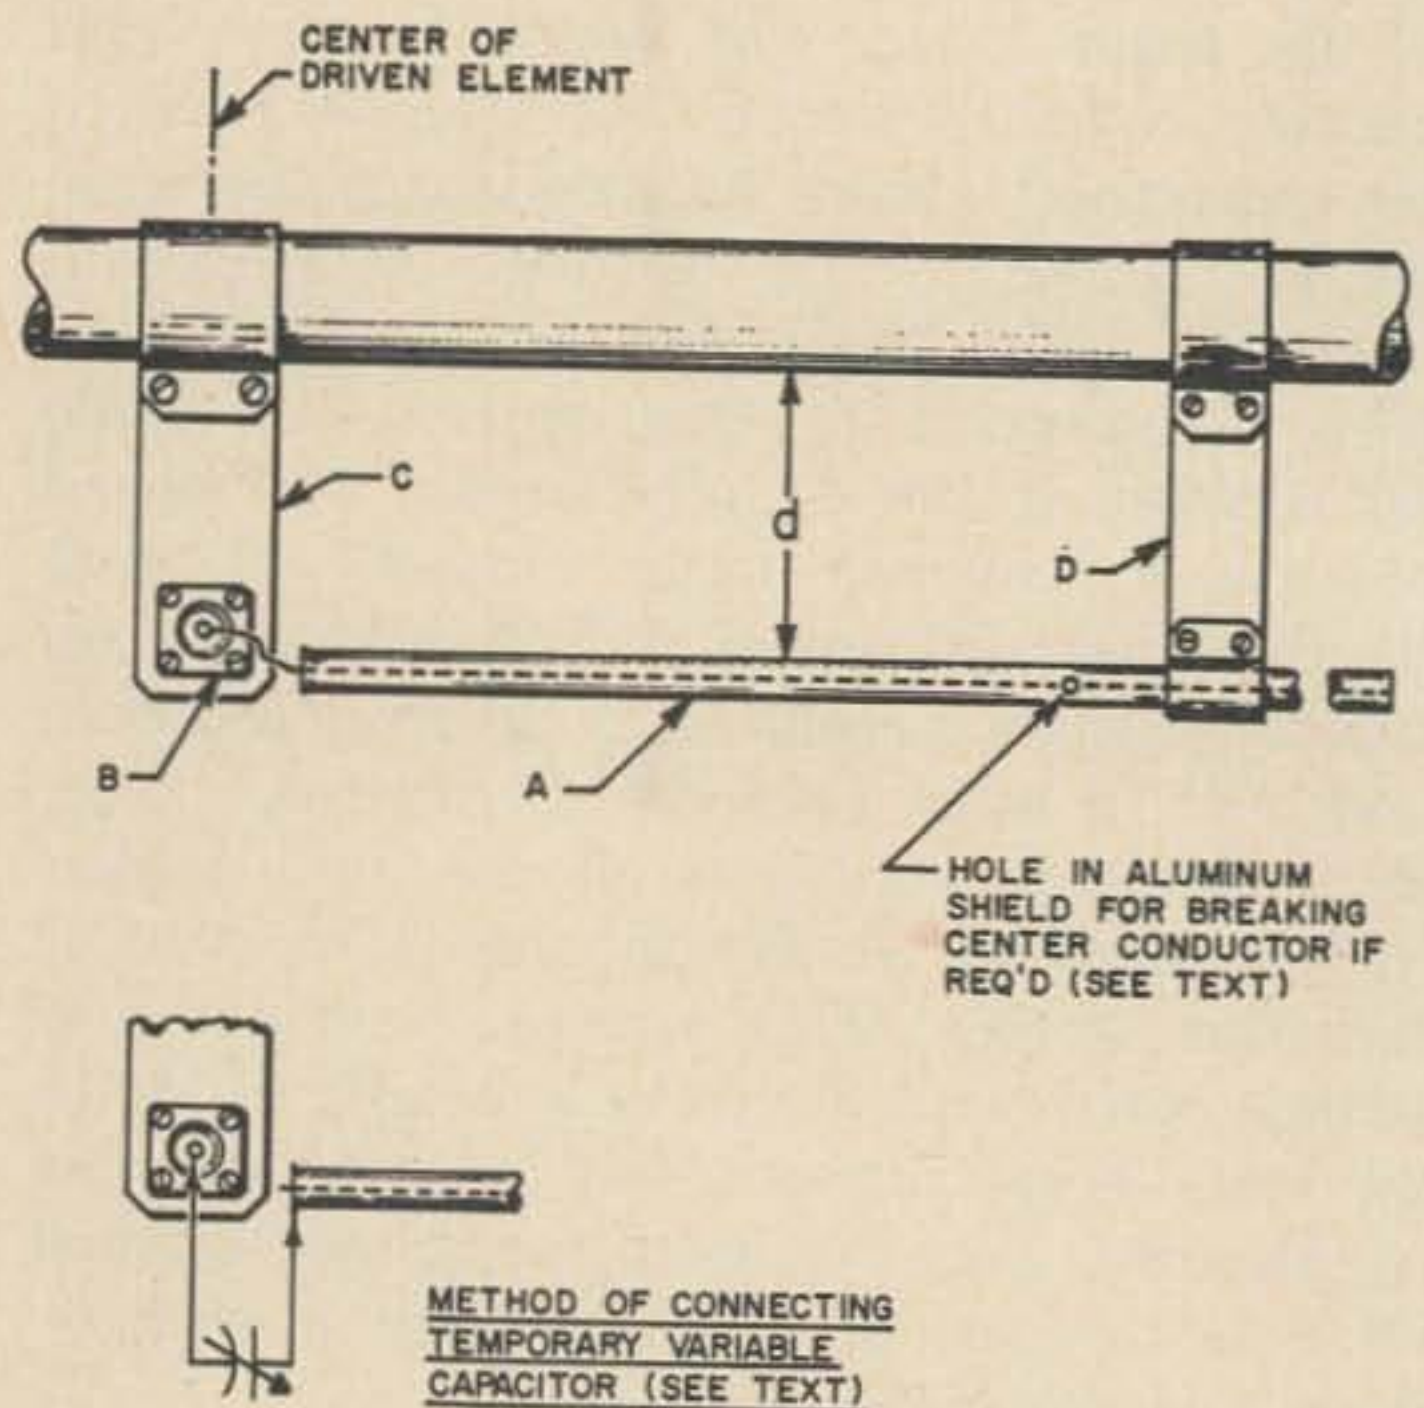

Fig. 1. The essential features of the gamma-match.
The subject is a sturdy gamma match with a one piece gamma rod. It can be made inexpensively from scrap metal and discarded parts. The gamma rod, labelled A in Fig. 1, is a piece of 50 ohm foamflex aluminum shielded coax. No more than 3 feet is required for 20, 15, or 10 meter beams, and a piece this size can usually be picked up gratis from most any two-way radio store. The SO 239 coax connector, B, is joined to the center of the driven element by an aluminum strap, C. At this QTH the aluminum was obtained from the scrap barrel at a local machine shop, gratis of course. At an arbitrary length from B a second aluminum strap D was placed which acts as the shorting bar. The distance, d, between the driven element of the beam and the gamma rod should be at least 3 inches or else the gamma rod will be inconveniently long.
1. First, the ends of the aluminum shielding next to the coax connector end of the gamma rod were bent outward slightly, and a coat of good sealer was applied for weather protection. The inner conductor of the coax was not connected to the SO-239 but was left floating, and a 100 $\mu\mu\text{F}$ variable capacitor wired between the aluminum shielding and the coax connector as shown in the inset of Fig. 1.
4. At this juncture knowledge of the capacitance per foot of the foamflex was necessary in order to use the proper length to equal the capacitance from the variable capacitor. Our material was known to have a capacitance of 29 $\mu\mu\text{F}/\text{foot}$, and an appropriate distance was measured. If the distance falls beyond the shorting bar the coax can be cut at this point as shown by the diagonal line in Fig. 1. If it falls inside the shorting bar, as was the case for our installation, a hole must be drilled into the foamflex breaking the inner conductor as shown by the circle-dot on Fig. 1. The hole was subsequently filled with sealing compound to insulate and weatherproof.